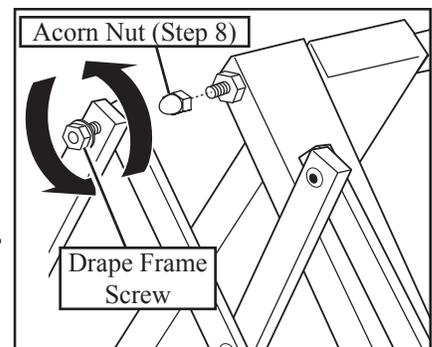

Figure 5 - Turn the Drape Frame Screws Counterclockwise
8. **On the church truck:** Remove the center acorn nuts (one from each side of church truck, Figure 5). If the drape frame will not be left on the church truck permanently, keep the acorn nuts.